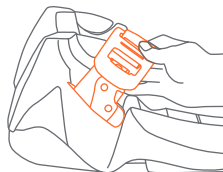

Fig. 44-1
2. Remove the Safety Seat from the base by squeezing the base release handle located under the center of the foot end of the Safety Seat and lifting upward on the Safety Seat (See Fig. 25-1). **Store both LATCH connectors as shown in Fig. 44-1.**
4. Remove the **LATCH** connectors from their storage position inside the base (Fig. 44-1). Place the Base in the rear-facing position in a forward facing vehicle seat as shown in Fig. 45-1. **The Child must face the rear of the vehicle and Safety Seat must be placed in a vehicle seat that faces forward.**